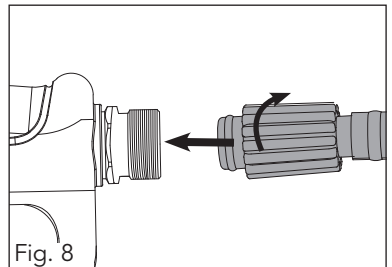

Fig. 8
1. Uncoil high pressure hose (10) and thread one end onto the spray gun (1) (fig. 8).